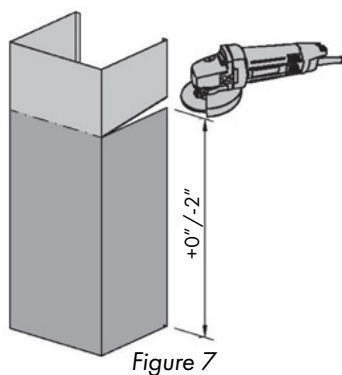

Figure 7
8. Find the center of the wall where you are installing the hood. Make sure there is sufficient bracing to hold the weight of the hood. Mark your center line and measure out from the center to find your two mounting points. Make sure your mounting points are level when you mark them. It is recommended to install the hood directly into wood supports. *Figure 7*